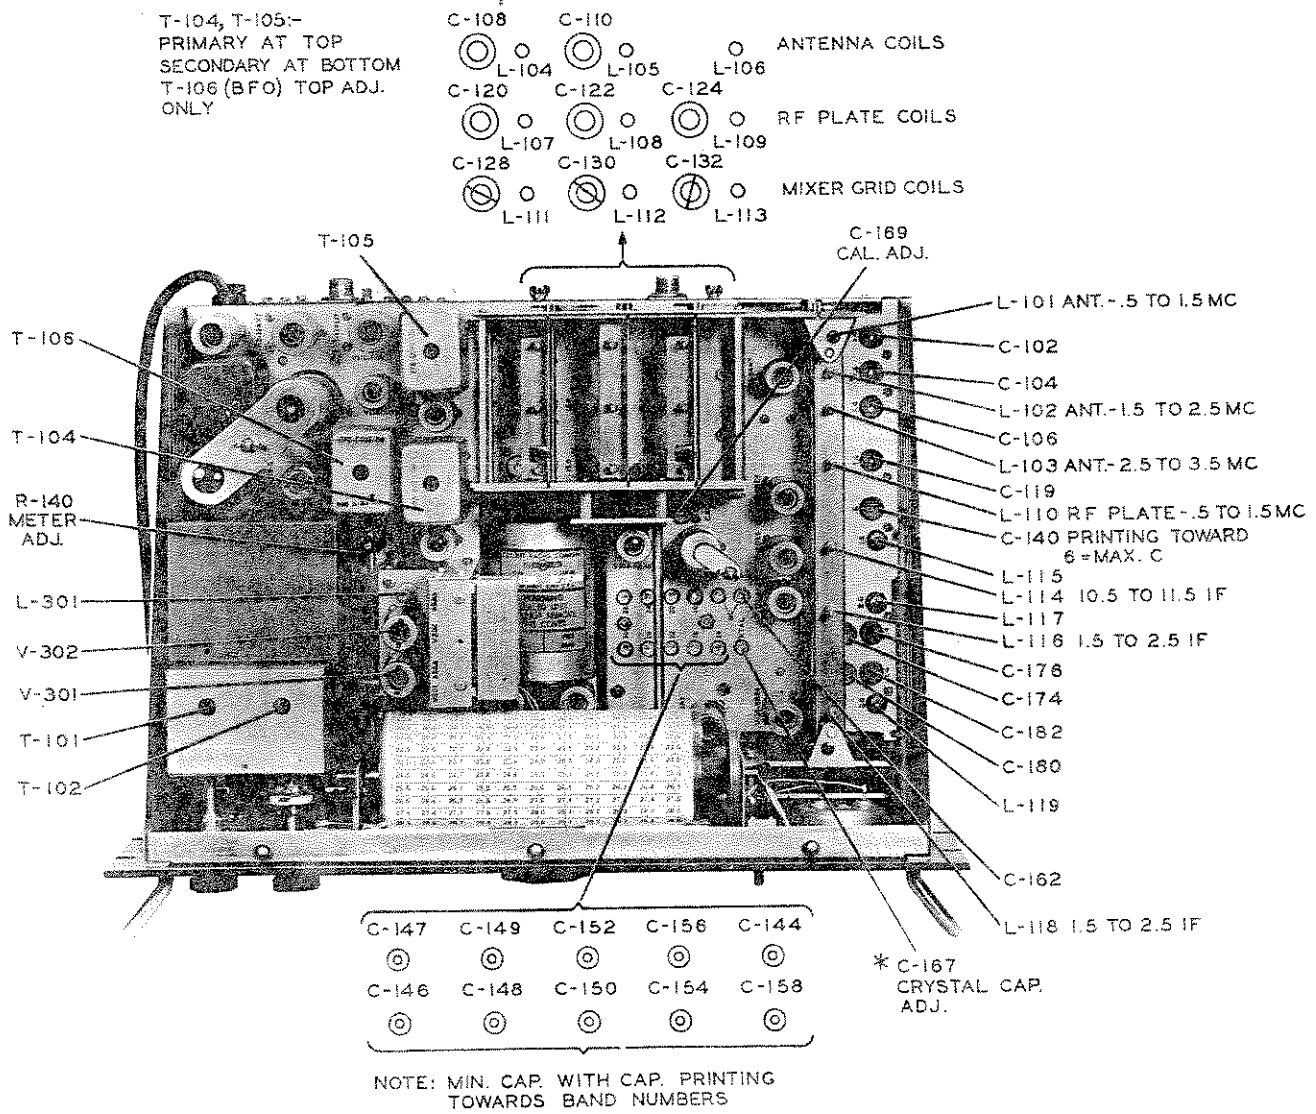

Figure 5-1. 51J-4 Alignment Adjustments
(c) In all of the following adjustments, peak the trimmers if the indicated voltage is not more than 2 volts. If it is more than 2 volts, detune trimmer toward minimum capacitance, until the voltage reads 2. See figure 5-1.
(g) If the BFO PITCH knob has never been off the shaft during the life of the receiver, align the BFO as follows. Turn BFO on. Set the line on the BFO PITCH knob at the fiducial mark on the panel. Adjust core in T106 (figure 5-1) to zero beat.
(1) Use an oscilloscope and a frequency-modulated signal generator having a sweep rate of four cycles per second, a frequency excursion of about 20 kc and a carrier frequency between 1.5 and 3.5 mc.
(2) Line up the crystal filter PHASING control knob with the panel mark and with the mid-range position of the phasing capacitor. To accomplish this, with the aid of a flashlight look into the right-hand hole in the top of the crystal filter cover (see figure 5-1) in order to see the plates of the phasing capacitor. Turn the PHASING control until the rotor plates are straight down toward the bottom of the receiver, i.e., until the rotor plates completely engage the bottom set of stator plates. Loosen set screws in PHASING control knob. Set knob line  $90^{\circ}$  to the left of the panel mark. Tighten set screws. Turn knob to panel mark. Phasing capacitor is now at mid-range.
(3) Connect the frequency modulated signal generator lead to pin 7 of V106. Connect oscilloscope lead to junction of R150 and R152. Turn on generator and oscilloscope and allow them to warm up.
(4) Turn SELECTIVITY switch to position 1. Select 3 KC filter, turn AVC off, LIMITER off, BFO off, CALIBRATE off and AUDIO GAIN to position 0. Tune receiver to carrier frequency of signal generator, which should be between 1.5 and 3.5 mc.
(5) Turn RF GAIN to mid-range and synchronize scope. Two fairly symmetrical peaks should appear on the scope screen. If they do not, adjust receiver tuning, RF GAIN and oscilloscope controls until they do appear. Each of these peaks is essentially an i-f response curve.
(6) Rotation of the PHASING control to the left should cause a rejection notch to appear at one side of each peak. If this notch does not appear, set the PHASING control about one-eighth turn to the left of center and adjust the core in top of T102 (accessible through the right-hand hole in the crystal filter cover) until it does appear and is well-defined on the scope screen. Adjust until no evidence of a damped oscillation remains.
(7) Turn PHASING control about one-eighth turn to the right of center. The rejection notch should appear at the other side of each peak, and, without further adjustment, should be well-defined and without evidence of a damped oscillation. If this is not the case, adjust T102 core slightly.
(8) Repeat steps (6) and (7) until the notch obtained in one of the steps looks symmetrical with respect to the notch obtained in the other step and gives no evidence of a damped oscillation.
- Perform step (2) above. Connect 1.5 to 3.5-mc signal generator output to pin 7 of V106. Connect VTVM to diode load. Turn SELECTIVITY control to Position 4. Tune the receiver to the input signal and adjust the fiducial line on KILOCYCLE dial so that it is placed directly over a scale reading for reference purposes.